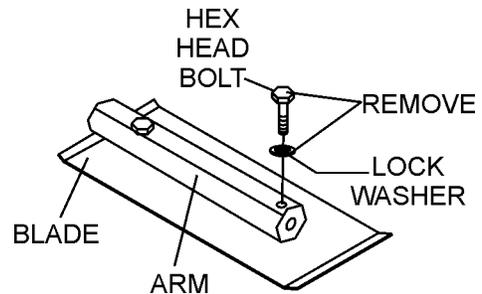

Figure 26. Trowel Blades
1. Remove the trowel blades from the trowel arm by removing the two hex head bolts (Figure 26) from the trowel arm. Set blades aside.